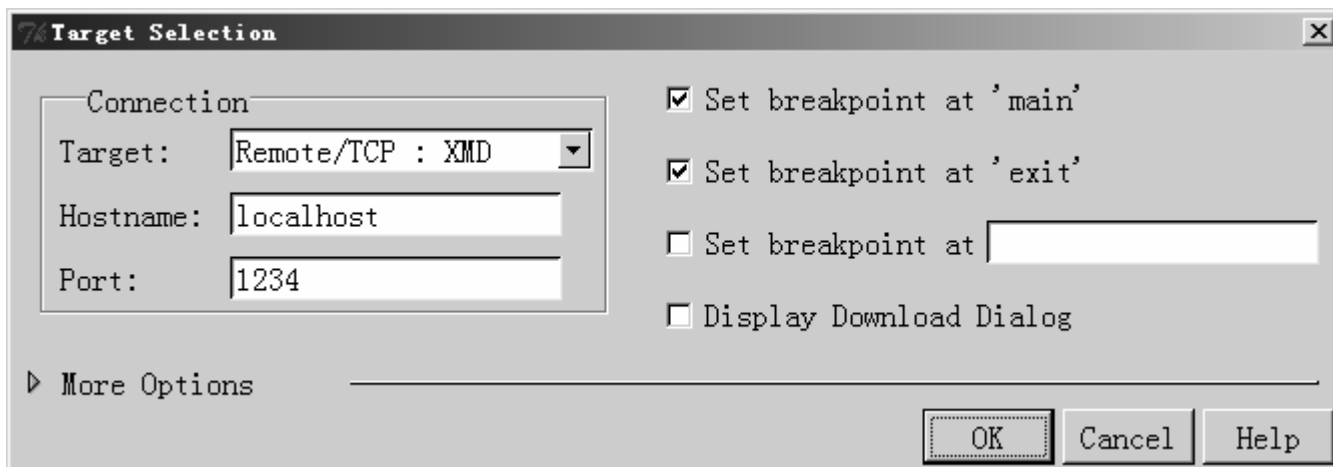

Figure 32: GDB Target Selection
- In GDB, select **File** → **Target Settings** to display the Target Selection dialog box as shown in Figure 32.